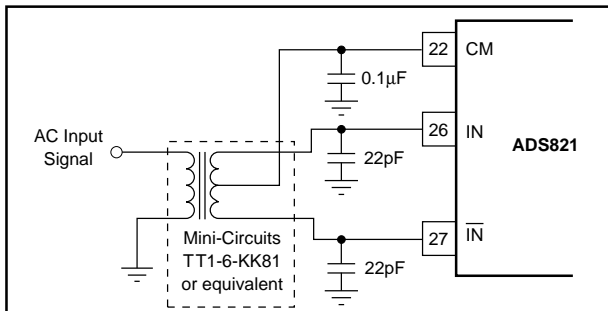

FIGURE 5. AC-Coupled Single-Ended to Differential Drive Circuit Using a Transformer.
The ADS821 has a differential input with a common-mode of +2.25V. For AC-coupled applications, the simplest way to create this differential input is to drive the primary winding of a transformer with a single-ended input. A differential output is created on the secondary if the center tap is tied to the common-mode voltage (CM) of +2.25V per Figure 5. This transformer-coupled input arrangement provides good high frequency AC performance. It is important to select a transformer that gives low distortion and does not exhibit core saturation at full scale voltage levels. Since the transformer does not appreciably load the ladder, there is no need to buffer the common-mode (CM) output in this instance. In general, it is advisable to keep the current draw from the CM output pin below 0.5μA to avoid nonlinearity in the internal reference ladder. A FET input operational amplifier such as the OPA130 can provide a buffered reference for driving external circuitry. The analog IN and $\overline{\text{IN}}$ inputs should be bypassed with 22pF capacitors to minimize track/hold glitches and to improve high input frequency performance.